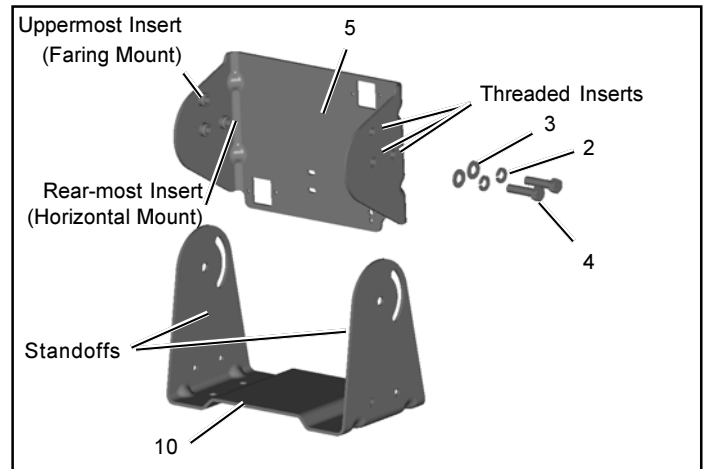

Figure 5 Camera Mounting Bracket Threaded Inserts
1. Choose the threaded insert on the camera bracket that is appropriate for the mounting (horizontal or vertical) that you have chosen. Refer to Figure 5.